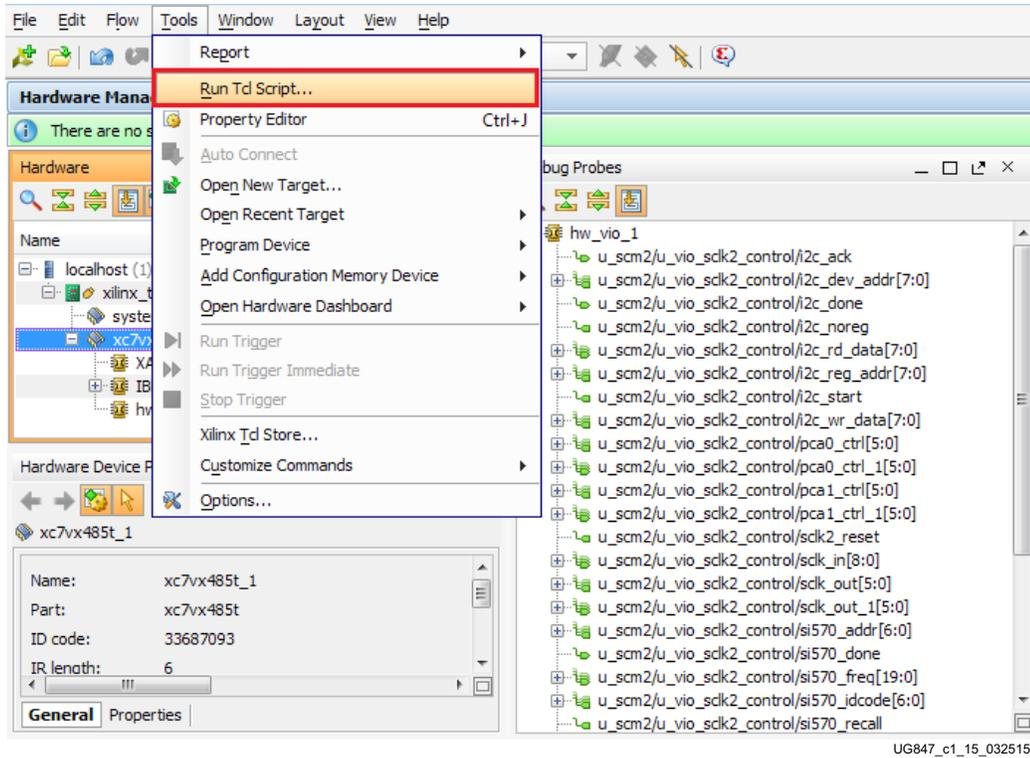

Figure 1-15: Run Tcl Script
- The Vivado tool now shows the SuperClock-2 VIO core and the IBERT core. To configure the SuperClock-2 module, select **Tools > Run Tcl Script** (Figure 1-15). In the following Run Script window, navigate to the `setup_scm2_156_25.tcl` script in the extracted files and click **OK**.